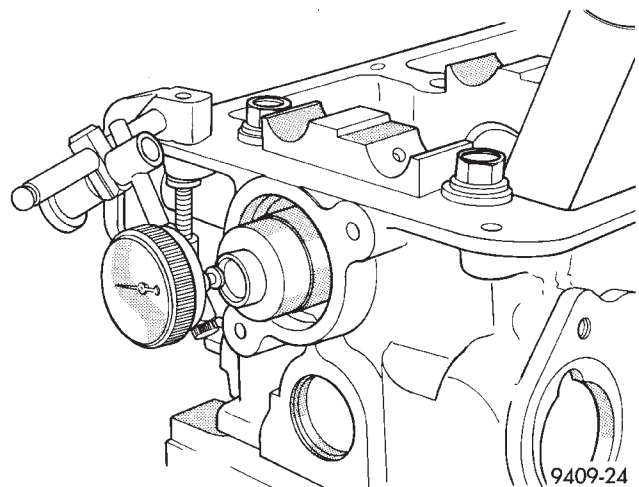

Fig. 13 Camshaft End Play
(1) Oil camshaft journals and remove rocker arm assemblies. Cam sensor installed and fastener tighten to specified torque.
(2) Using a suitable tool, move camshaft as far rearward as it will go.
(3) Zero dial indicator (Fig. 13).
(4) Move camshaft as far forward as it will go.
(5) End play travel: 0.13 - 0.33 mm (0.005 - 0.013 inch.).